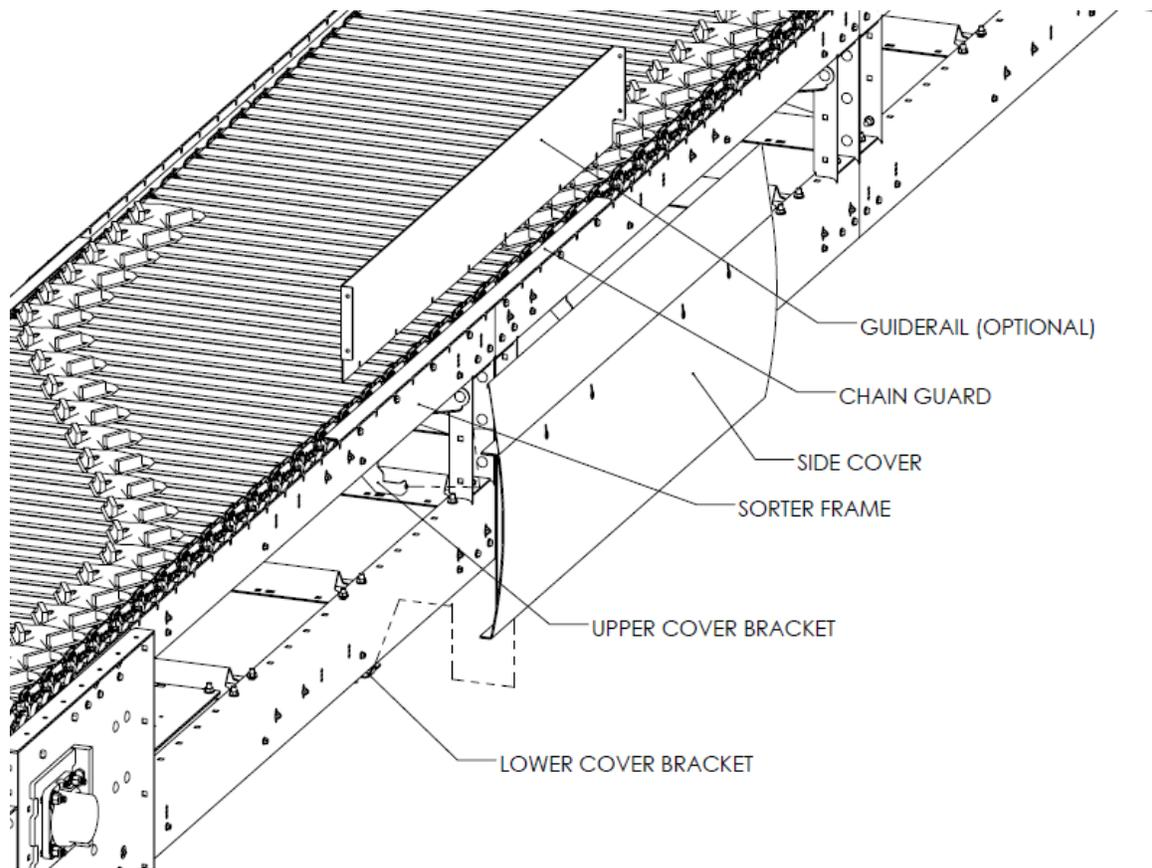

Figure 16-Chain Guard, Guiderail, and Side Cover Installation
1. See Figure 16.
2. The side covers mount to (2) lower cover brackets, fastened to the underside of the sorter frame lower rail, and (2) upper cover brackets, fastened to the underside of the sorter frame upper rail.